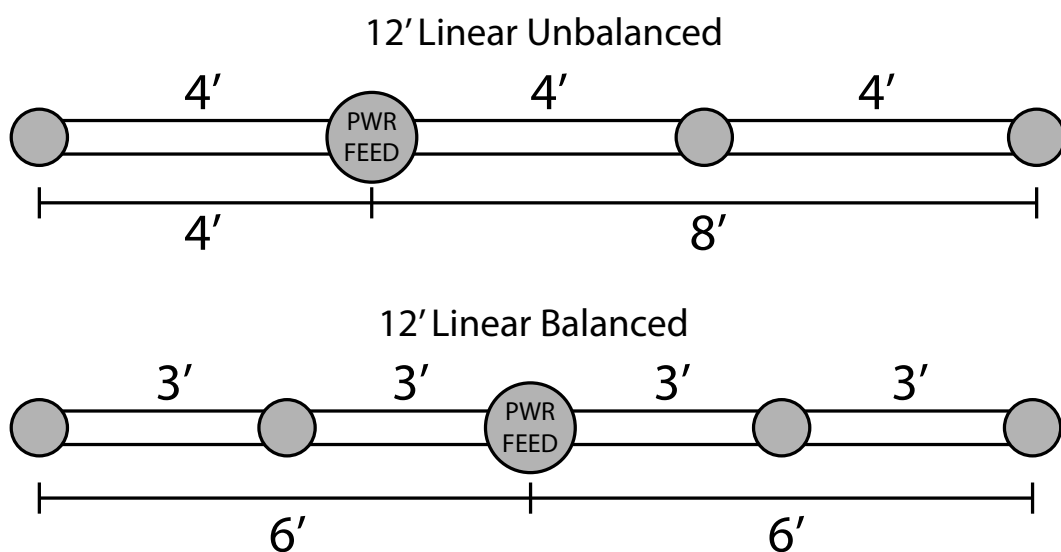

Fig. 6
5. Balance the electrical load in a configuration by making the total Luminaire length in each branch as similar as possible. For example, a 12ft linear configuration should be grouped in two 6ft sections, rather than a 4ft section and an 8ft section (Fig. 6).